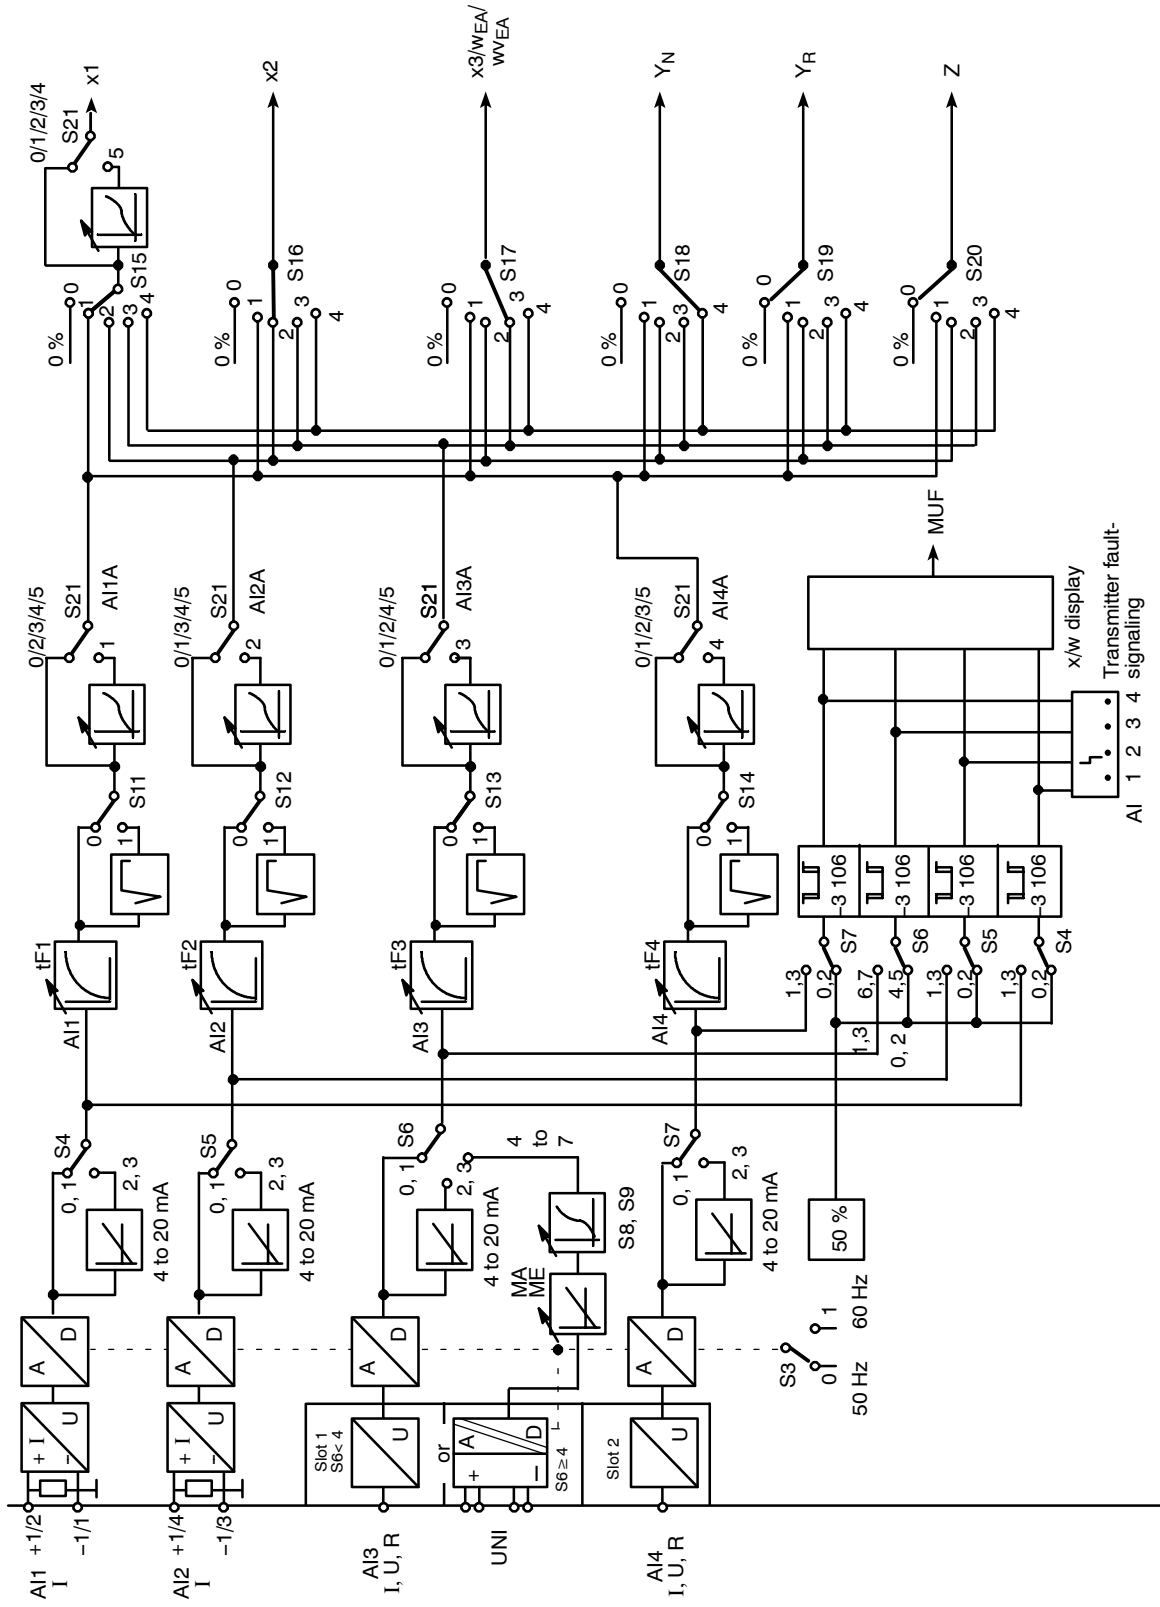

Figure 3-1 Analog input signal processing
see fig. 3-1, page 49
At the same time S4 to S7 decide whether operation is to take place with or without range monitoring (transmitter fault). A separate AD-converter routine without averaging is responsible for monitoring so that the manual mode which is possible with S50 comes into action bumplessly in the event of a transmitter fault. The monitor signals per channel on dropping below -2.5% or exceeding +106.25 % with a hysteresis of 0.25 % on the digital x/w-display. By an OR link of all single messages the group transmitter fault MUF is formed which can be assigned to the digital outputs and negated optionally (see figure 3-1, page 49 and chapter 3.8, page 111). Only the analog inputs selected with the transmitter fault monitor are monitored, displayed on the front panel (the appropriate position stays dark in the case of analog inputs not selected with transmitter fault) and signaled with the OR link. The error message is acknowledged with the Shift key (12). The fault message signal via the OR link is available until the selected analog inputs are back in the working range.